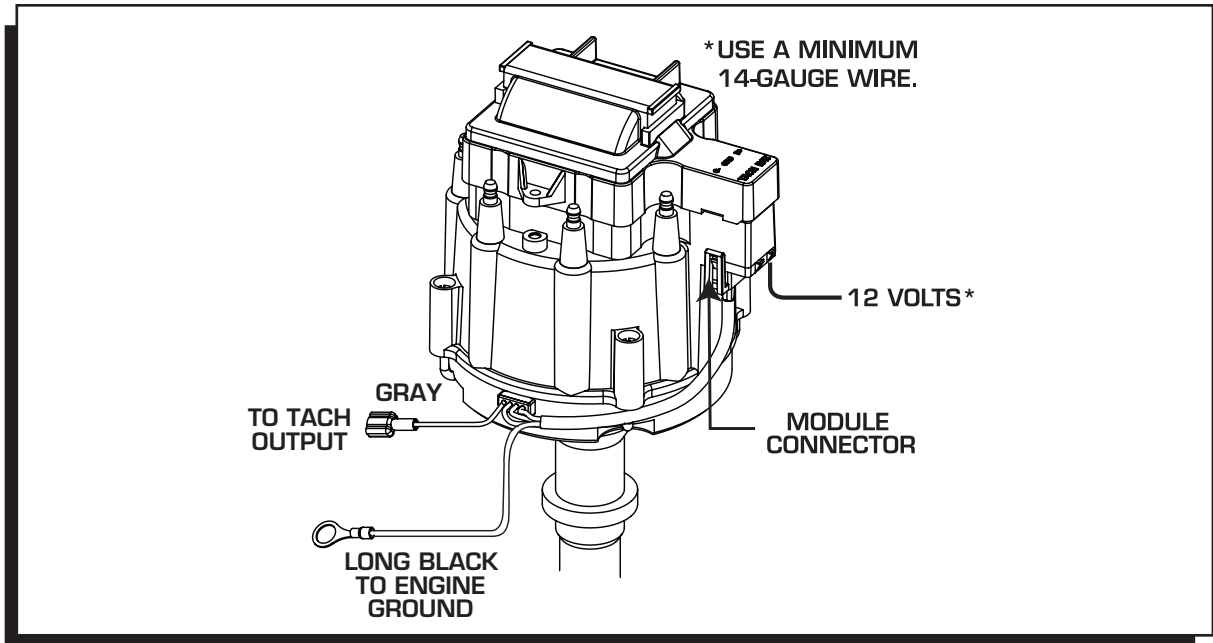

Figure 5 Connecting the Module and Tach Lead.
6. Connect the HEI Module harness to the Distributor Cap. See the Tachometer Wiring section before connecting your tachometer (Figure 5).
7. Connect a 14-gauge (minimum gauge) wire to the "BAT" terminal of the cap to supply the 12 volts to the HEI system (Figure 5).